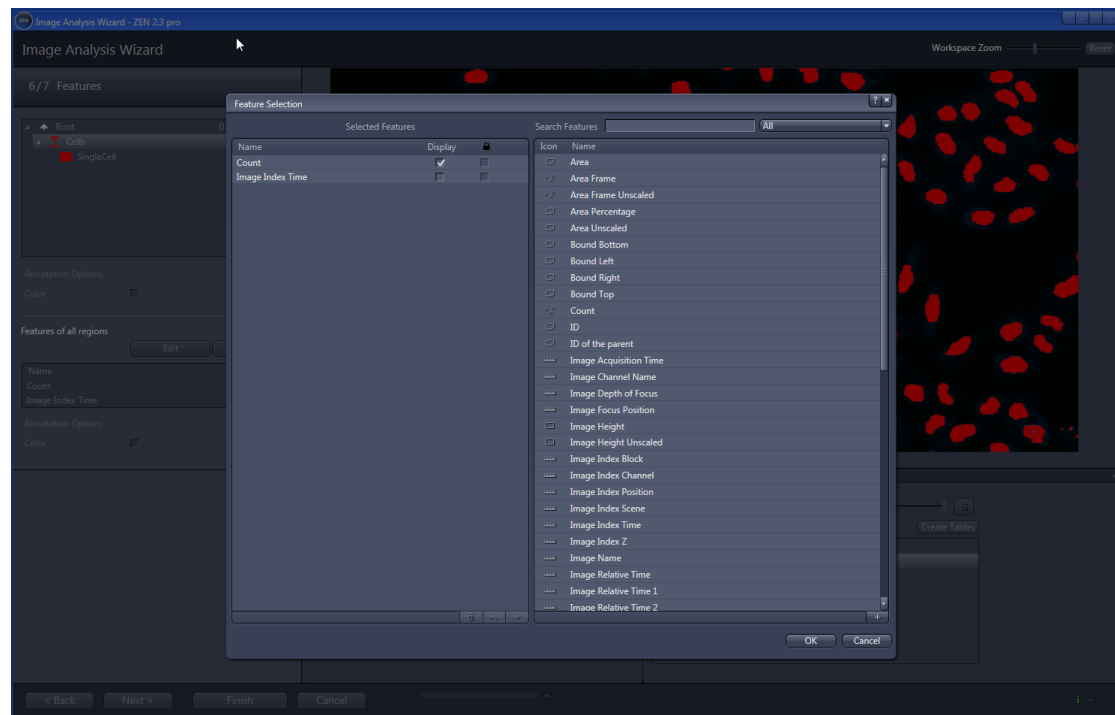

Figure 18: Image Analysis Wizard: Select the measurement features
3. Define the features for all objects (parameters for 'Cells') and for the single objects (parameters for 'SingleCell'). For this example it is sufficient to define Count and Image Index Time as parameters for 'Cells', which give you the number of single cells for each frame and the image index time, respectively (Fig. 18).